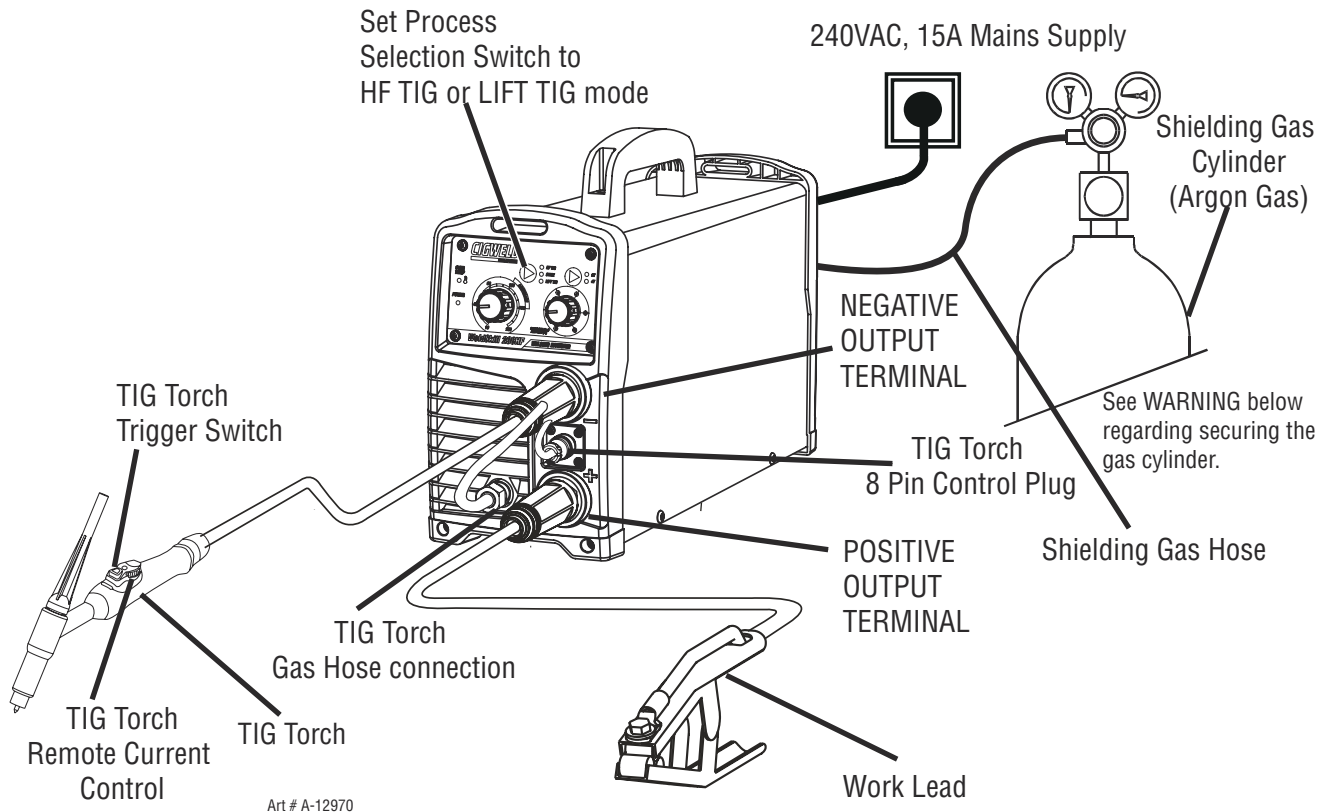

Figure 5-3: Setup for TIG (GTAW) Welding
- B. Connect the TIG torch trigger switch via the 8 pin socket located on the front of the power source as shown in Figure 5-3. The TIG torch will require a trigger switch to operate in HF TIG and Lift TIG Mode.